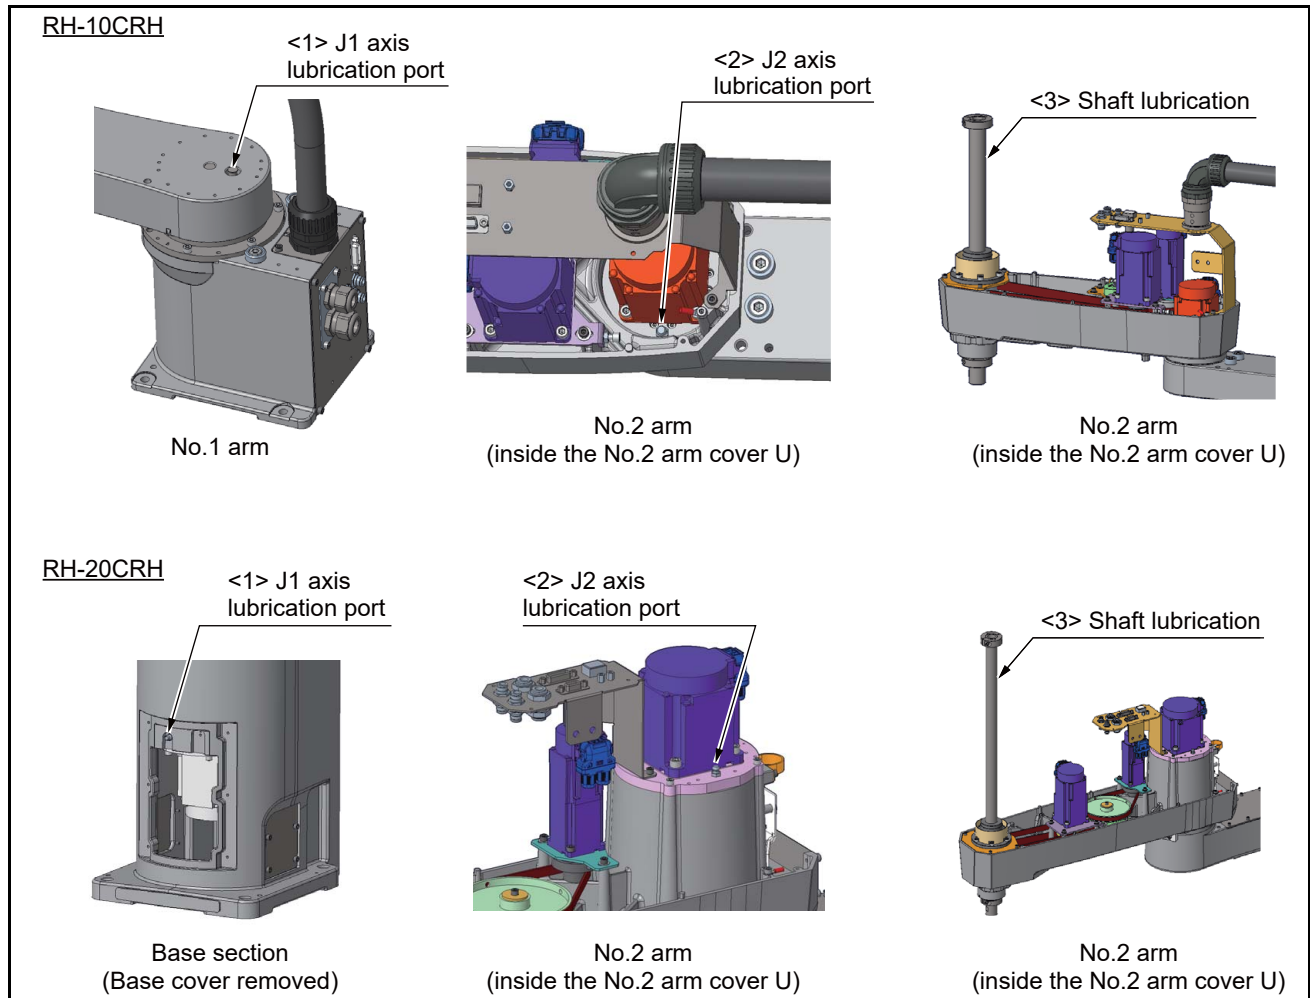

Fig.5-6:Lubrication positions
The grease nipple position is shown in Fig. 5-6. The lubrication specifications for each place are shown in Table 5-9. Refer to the Page 61, "5.3.2 Installing/removing the cover" for the method of removing and installing the cover.
- The numbers in the Table 5-9 correspond to the supply positions in Fig. 5-6.
(2) Lubrication method to the J1, J2 axis